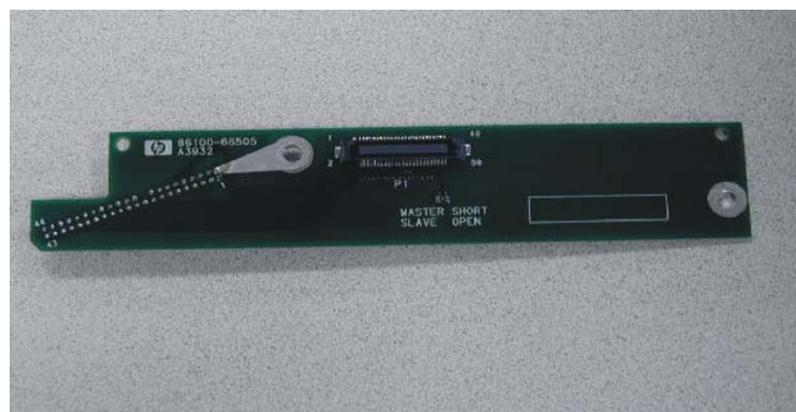

Figure 6-19. A16 LS-120 Board shown with Added Ground Strap
- 5 Modify the A16 LS-120 board by installing a ground strap from pin 2 to the mounting hole. Refer to Figure 6-19.